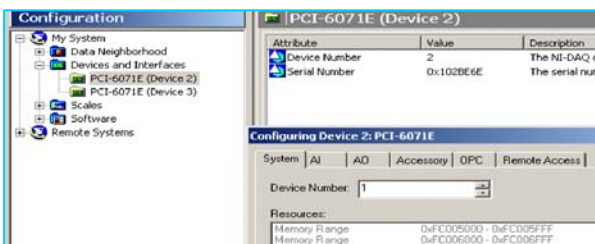

Figure. 1-10
3. Change the configuration of “Device 2” to “Device1” (Figure. 1-10)